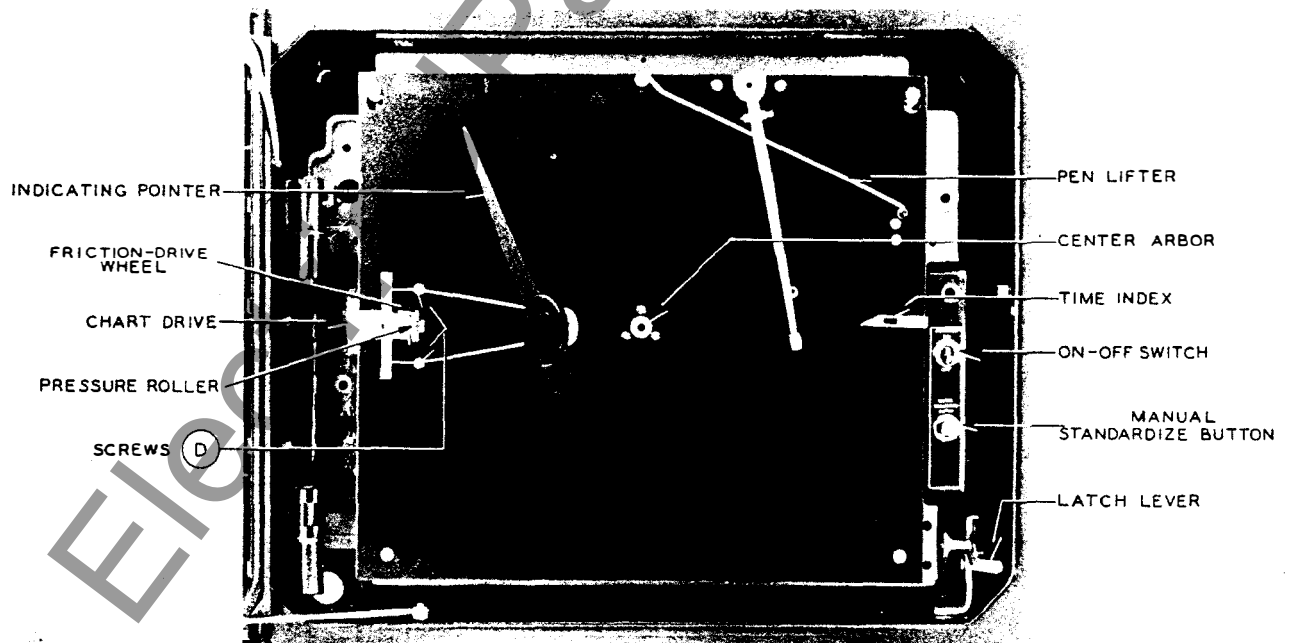

FIGURE 5. FRONT VIEW OF CHART PLATE WITH CHART REMOVED
3. **Replacement of Chart Drive.** Turn power switch off. Disconnect motor leads from power-supply terminals  $L_1$  and  $L_2$  on back of panel. Remove screws (Item D in Figure 5). This permits the motor and motor mounting bracket to be removed as a unit. Remove old motor from mounting bracket. Install new motor on mounting bracket and mount complete unit on chart plate. After mounting the new motor, connect the motor leads to  $L_1$  and  $L_2$  terminals on back of panel.